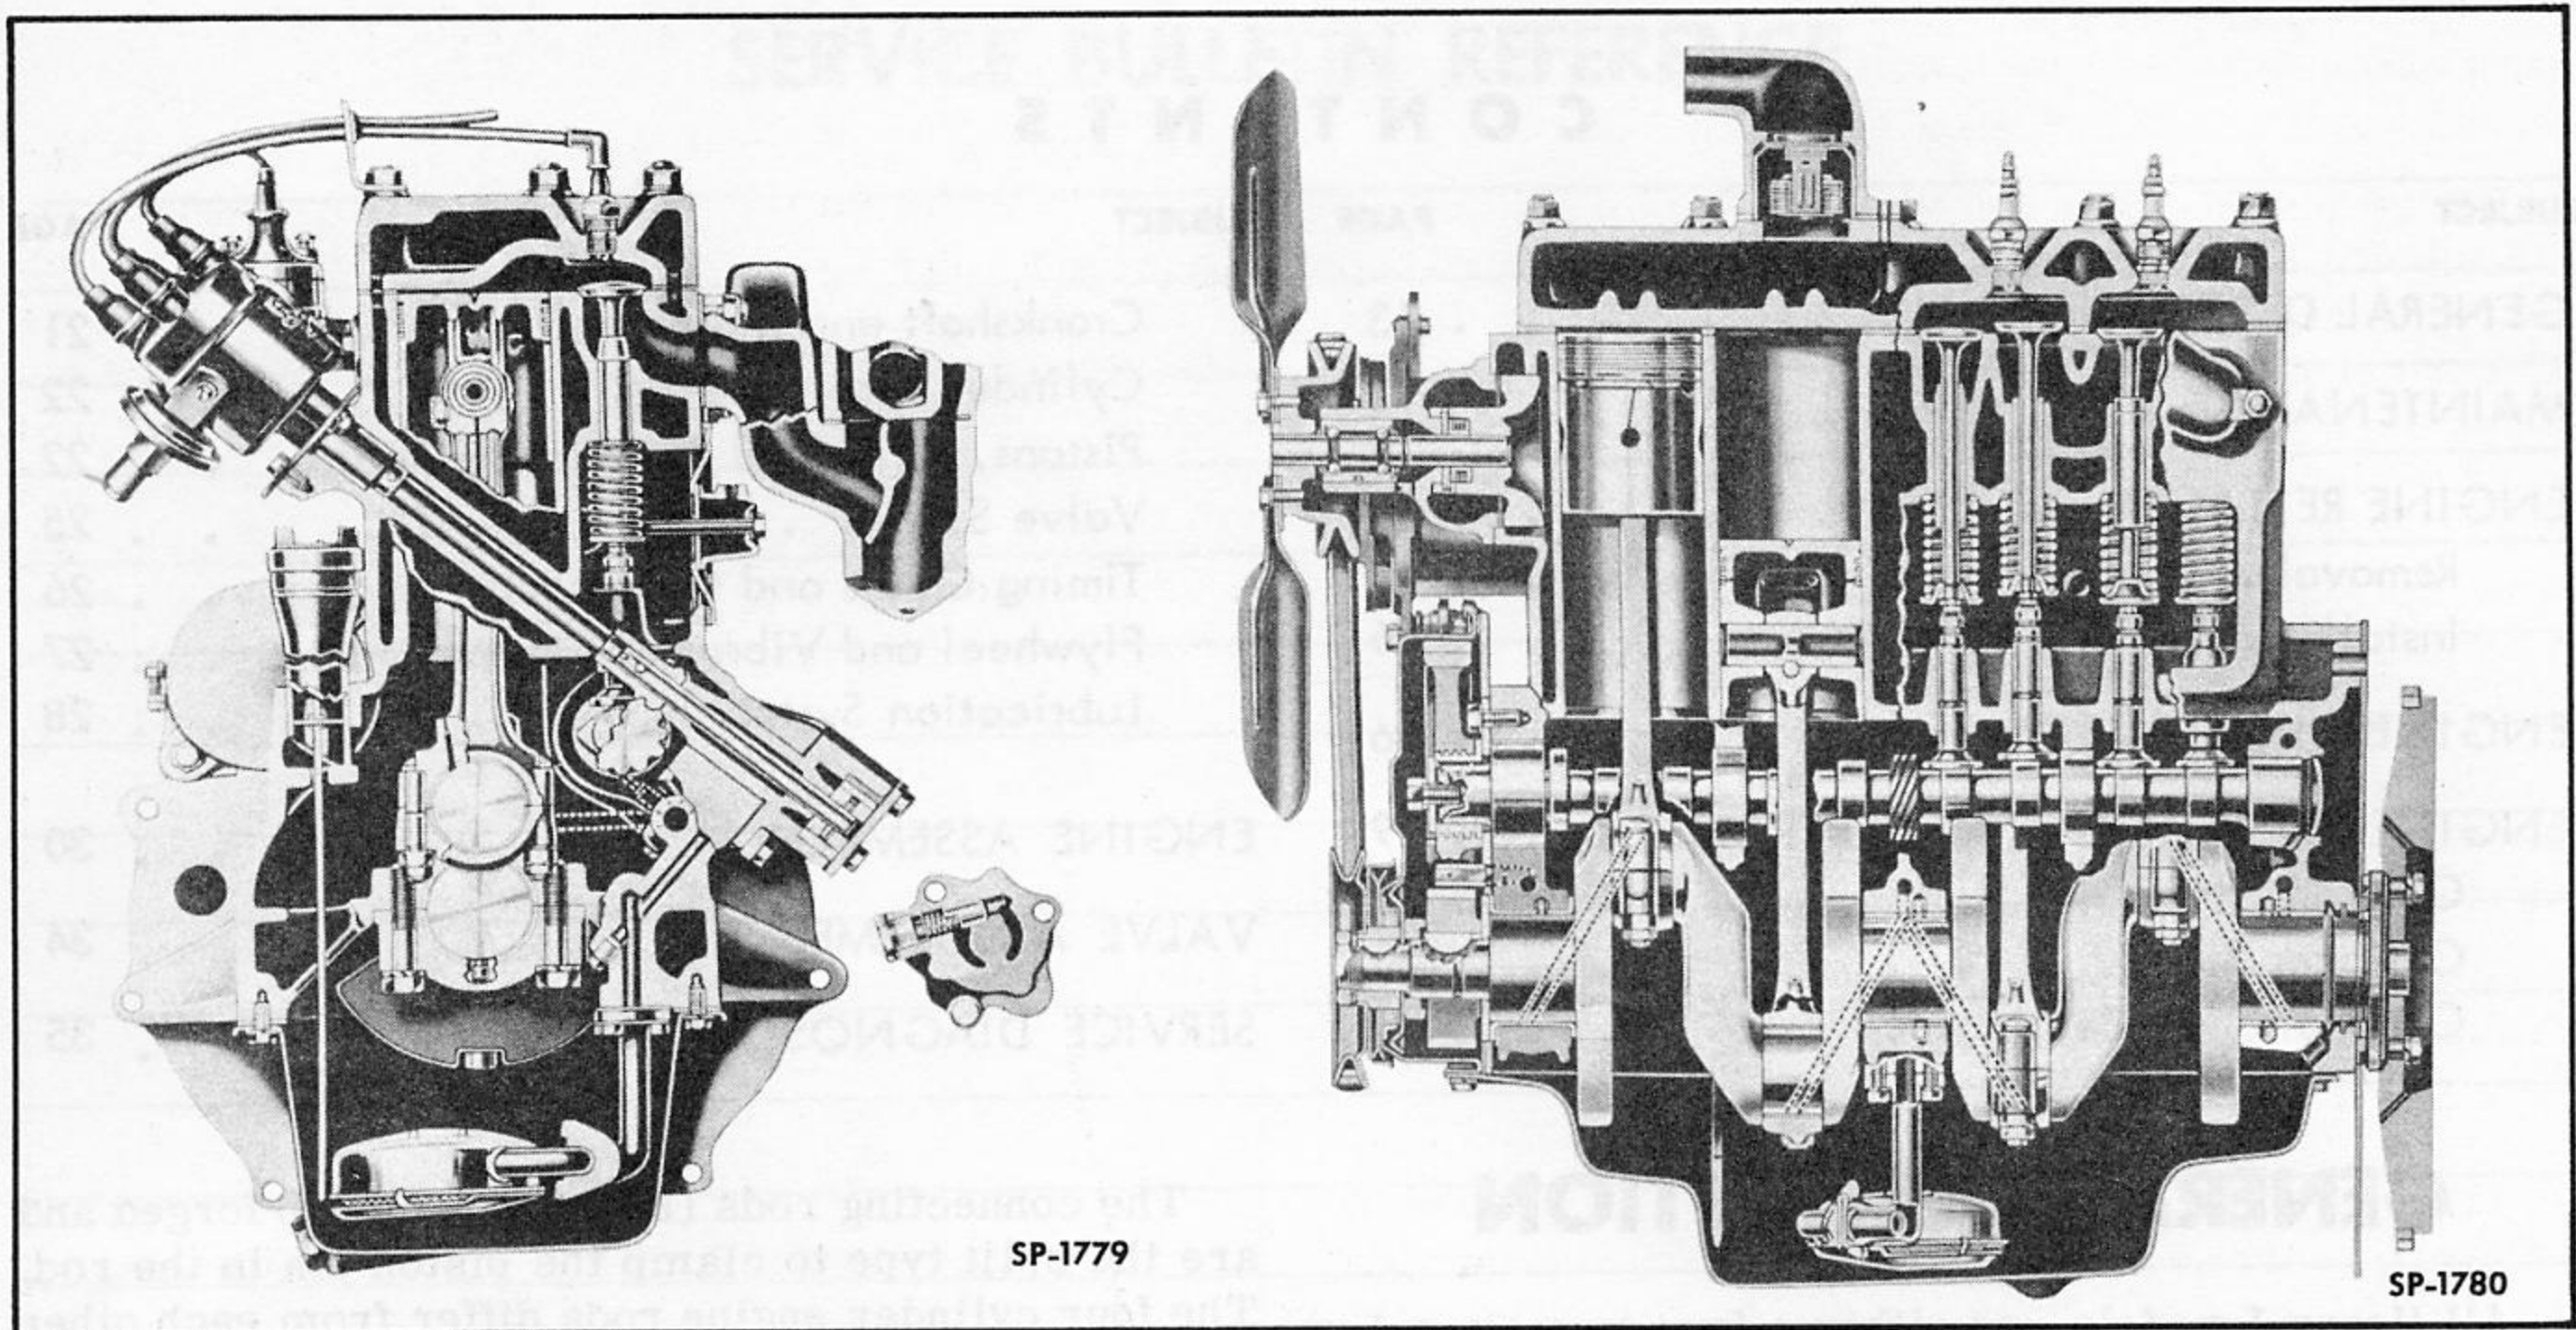

Fig. 18—4 Cylinder Engine—Side and End Section View
6. Remove nuts and washers at forward engine mountings (Fig. 18). Attach a sling or lifting hook approximately in center of block so front of engine is tilted upward when lifting transmission out of vehicle. Place engine in Engine Repair Stand KF-24 with Adapt-